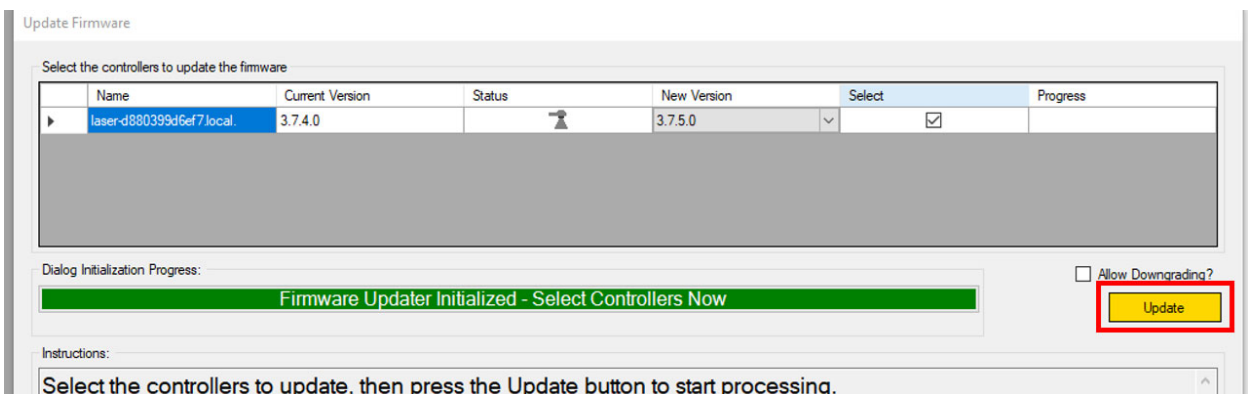

Figure 376: Starting the Update Process
5. Click the **Update** button. See Figure 376 (below).